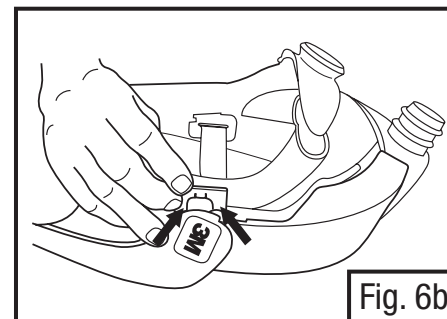

Fig. 6b
- With the headgear upside down and the visor frame in the up (open) position, pull down on metal spring clips (towards inside of headgear) until they touch the back plate. Pull out to remove. Use a tool if necessary. Remove frame from M-Series Headgear (Fig. 6b).